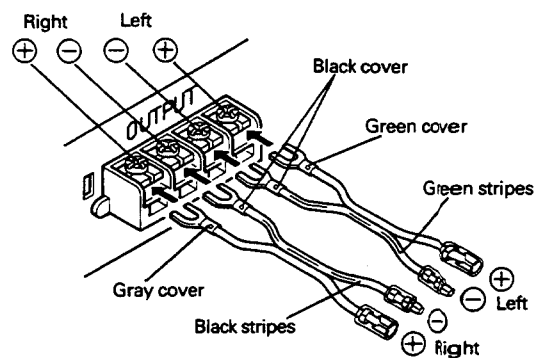

Fig. 4
- This amplifier has a mode select switch to select two-channel output (stereo) or one-channel output (mono). The speaker leads must be connected to suit the mode selected. Connect the speaker leads to the output terminals of the amplifier as shown in Fig. 4 and 5, paying attention to the polarities (+ and -) and lead colors.